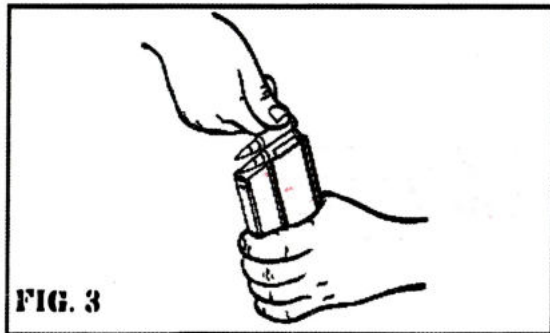

FIG. 3
1. Load the magazine by inserting the cartridges one at a time into the magazine [see figure 3]. Place the rifle on safety and point it in a safe direction.